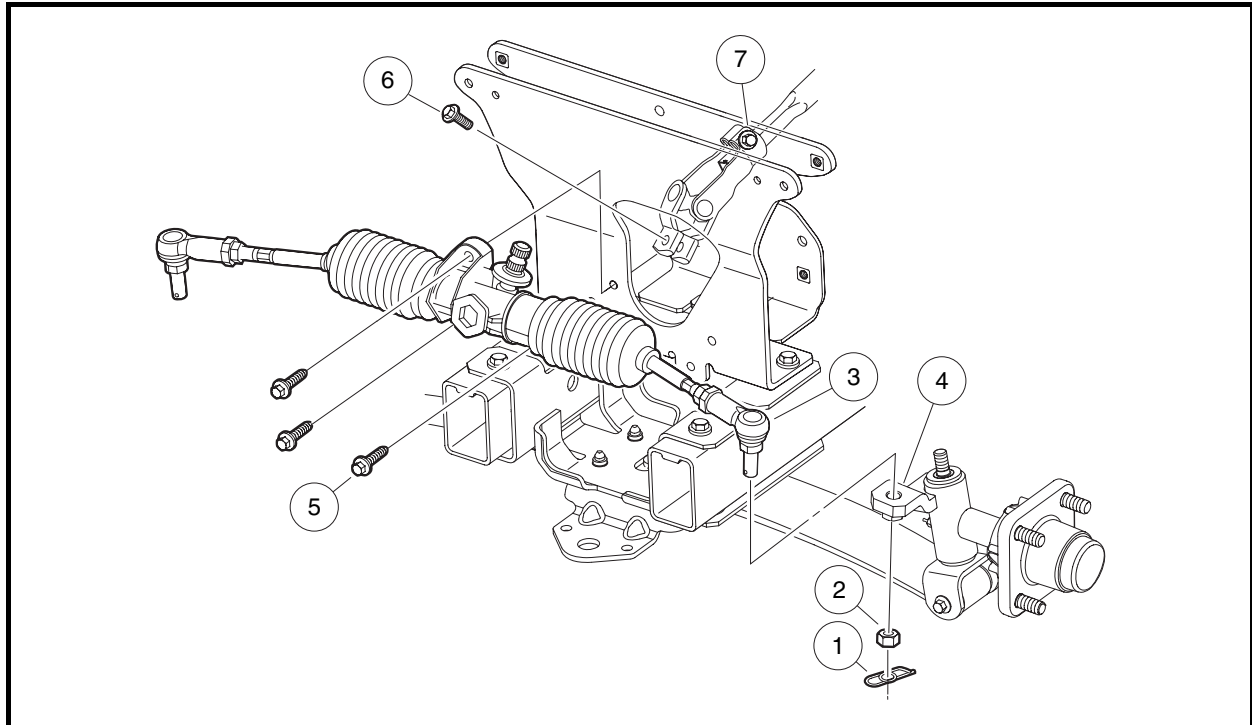

Figure 7-4 Rack and Pinion Removal
2. Remove the retaining pins (1) and tie rod end retaining nuts (2) (**Figure 7-4, Page 7-5**).
3. Remove the tie rod ends (3) from the spindle assemblies.
5. Install the tie rod ends (3) into the left- and right-hand spindle tabs (4), and then install the retaining nuts (2) (**Figure 7-4, Page 7-5**). See following **WARNING**.